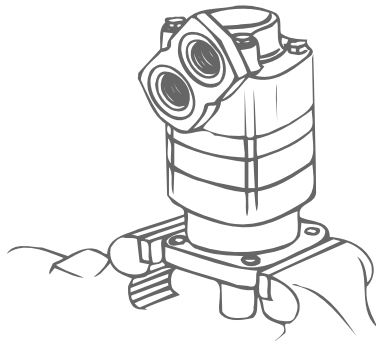

Figure 1
1. Place motor in a vise with output shaft down. Clamp across edge of bearing housing not on housing (see Figure 1). Excessive clamping pressure on housing will cause distortion. When clamping, use some protective device on vise, such as special soft jaws, pieces of hard rubber or board.